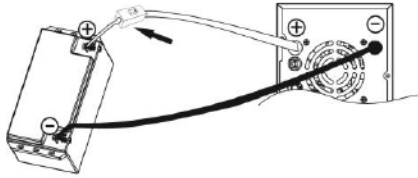

Fig. 1
**Step 1** - Install a DC Breaker in a positive battery line. The rating of the DC Breaker must be according to the inverter's battery current (50 Amp). Keep the DC breaker off. **(see Fig. 1)**
**1) Single battery connection (Refer to Fig. 1):** When using a single battery, its voltage must be equal to the Nominal DC Voltage of the unit **(see below Table 1)**.